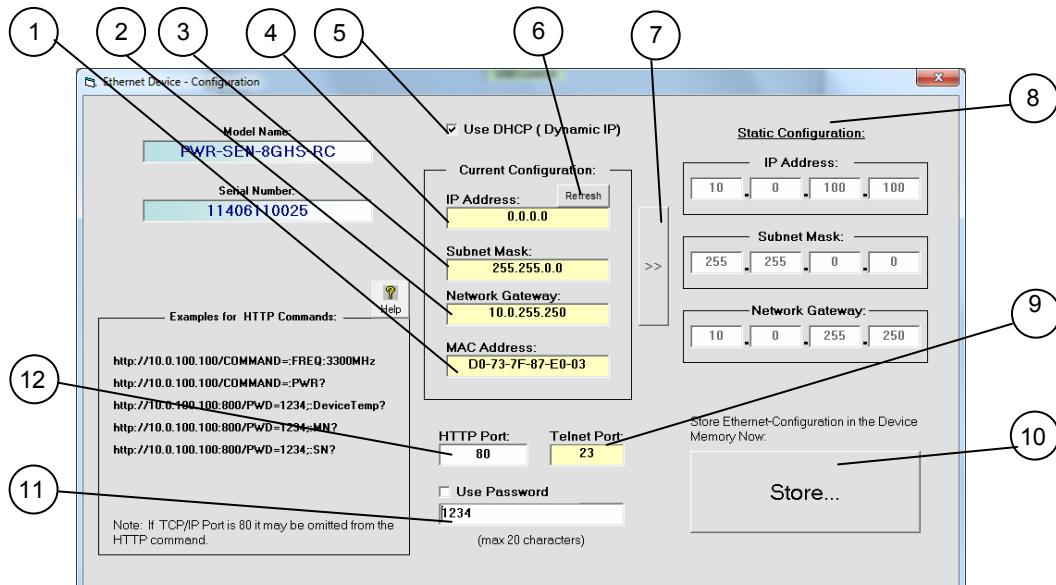

Figure 3.1.9: Ethernet Config. screen (showing factory default state)
3.1.9 The Ethernet Configuration screen will open showing the current configuration. Figure 3.1.9 shows the factory default of the power sensor. If these settings fit your local network, you do not need to access the setup before connecting the power sensor to the network.